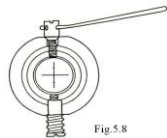

Fig.5.8
- 4) Adjusting the reticle by using adjusting pin. If  $b'_2 < b_2$  ( Fig.5.8 )